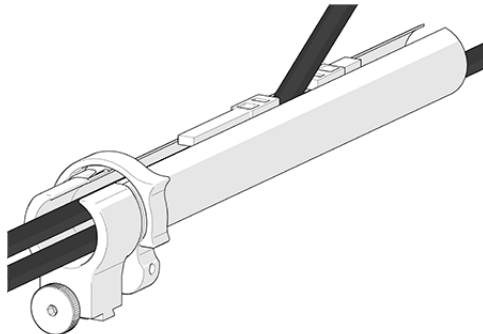

Figure 3-55 Flexibility
4. When necessary, the two zippers may be opened to allow any cables to exit the tube anywhere between the ends (see Figure 3-55 on page 75).